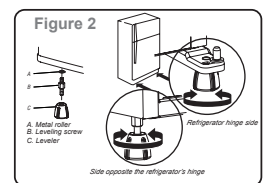

Figure 2
- D. Level your refrigerator using the following instructions: (figure 2)